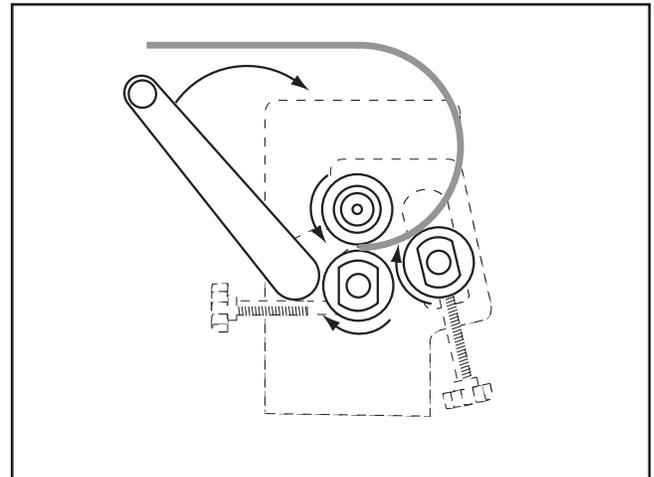

Figure 24. Processing the workpiece.
- Turn the crank to process the material through the slip roll. Continue turning until the workpiece is completely through the upper and lower rollers (**Figure 24**).